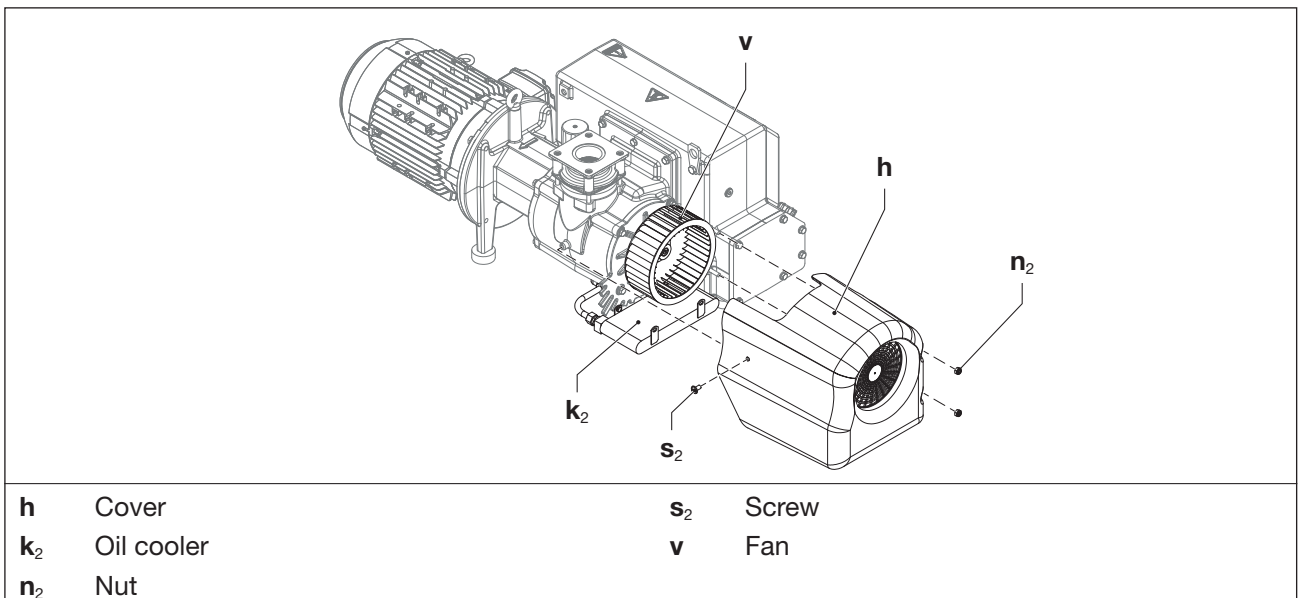

Fig. 9 Oil cooler
- b) Release a screw (Fig. 9/s₂) and two nuts (Fig. 9/n₂) on the hood.
- c) Remove the hood (Fig. 9/h) from the pump.
- d) Blow-off the oil cooler (Fig. 9/k₂) and clean from the outside (wipe with a moist cloth).
- e) Clean / blow off the fan (Fig. 9/v) and check it for damages. Operate the fan only if it is in good order and condition.
- f) Clean / blow-off the ventilation slots on the hood (Fig. 9/h).
- g) Push the hood back onto the pump and fix it using the screw (Fig. 9/s₂) and nuts (Fig. 9/n₂). Tightening torque: 5 Nm